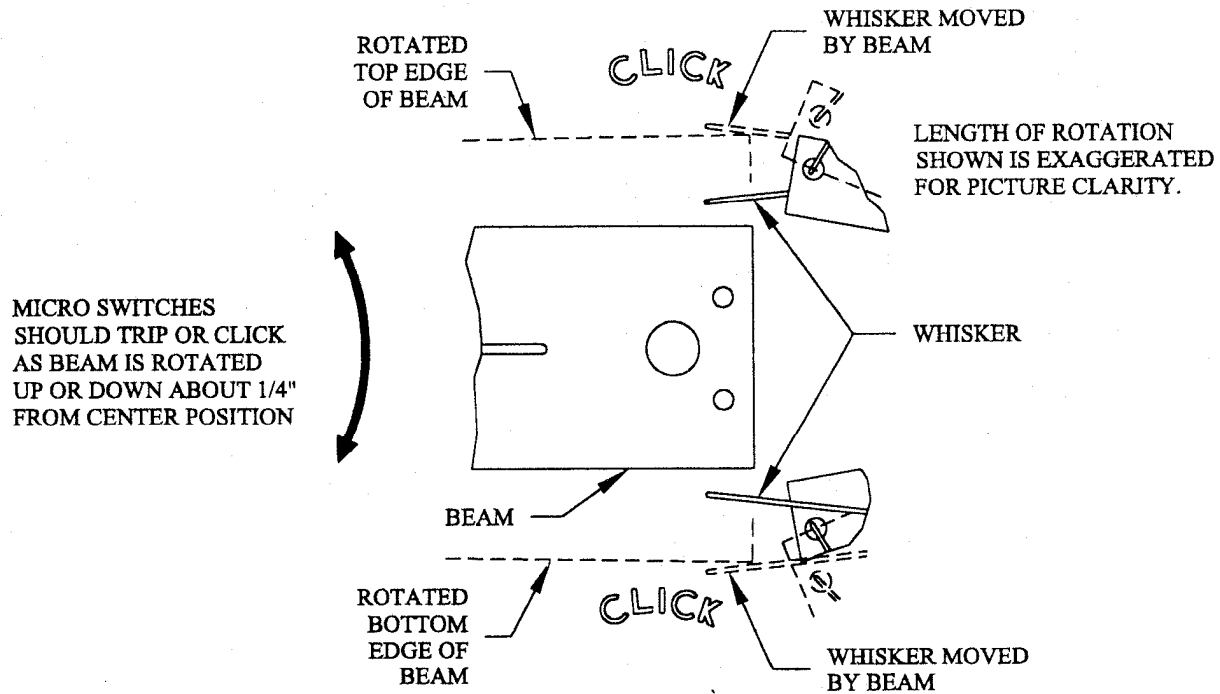

FIG. 9
- ☐ 9) Check the micro switches to see if both whiskers are touching the beam at the same time. If they are, they need to be adjusted. See Fig. 9.